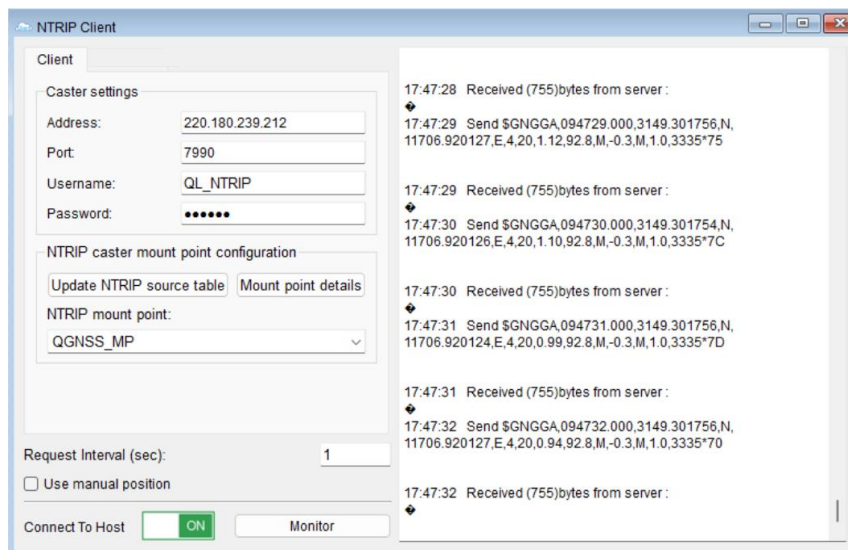

Figure 83: NTRIP Client
Step 1: Enter the Address, Port, Username and Password as shown in Figure 83: NTRIP Client. Contact Quectel Technical Support to get the username and password if necessary.